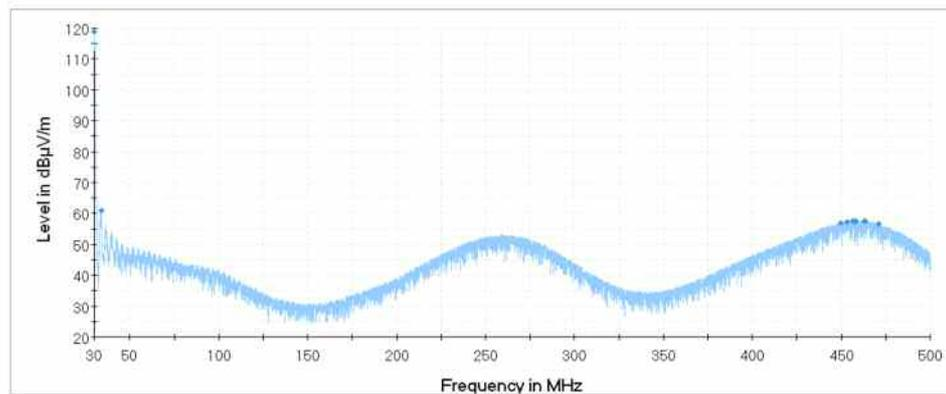

Figure 19: Peak Search with Maxima Limitation, Maximum Number of Results = 10
- Figure 19: Maxima Limitation: Maximum Number of Results = 10